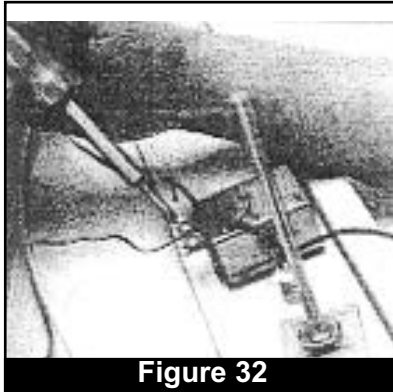

Figure 32
**\*\*NOTE: The tops of the terminals should face down (toward the actual top of the heating module). (Fig. 32)**